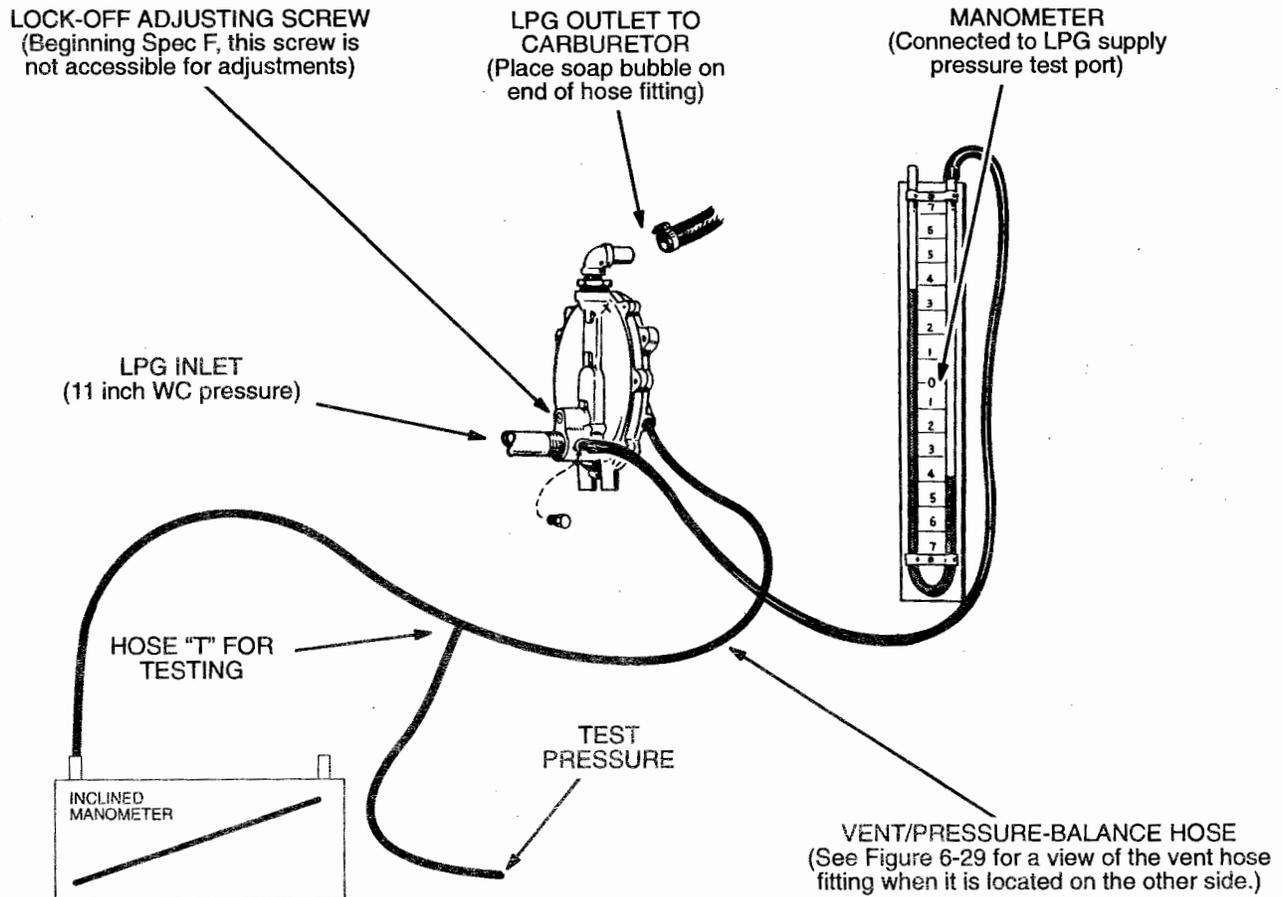

FIGURE 6-30. LPG SUPPLY PRESSURE AND REGULATOR LOCK-OFF PRESSURE
2. Remove the 1/8 inch pipe plug from the regulator test port (Figure 6-30) and connect a manometer calibrated in inches or mm WC having a scale range of at least 14 inches (350 mm).
1. Continue with the test setup for adjusting LPG supply pressure shown in Figure 6-30. If the regulator is being tested on the bench, connect it to a source of air pressure regulated to 11 inches (280 mm) WC.